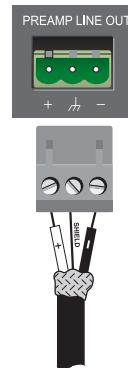
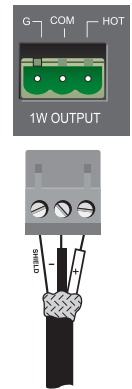

Figure 2.7 Connections to the Preamp Line Out Connector
Figure 2.8 Connections to the MOH Line Output Phoenix Connector (1V or 1W Connector)
**Amplifier Output Connections:** Crown recommends using pre-built or professionally wired, high-quality, two-conductor, heavy gauge speaker wire and connectors. You may use crimp-on spade lugs for your output connectors. Slip the cable lugs under the output screw terminals and tighten (Figure 2.7). To prevent the possibility of short-circuits, wrap or otherwise insulate exposed loudspeaker cable connectors. Cover the output connections with the supplied non-touch cover.
Use 2-conductor shielded cable and a 3-pin Phoenix-type connector for Preamp Line Output (Figure 2.7), and for MOH 1V or 1W output (Figure 2.8).